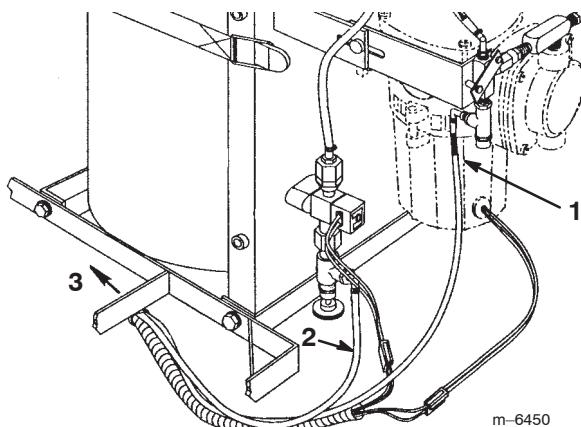

Figure 15
- Mark a 108 inch supply hose with a black marker at each end (Fig. 15).
- Connect the marked supply hose to the hose barb at the compressor and the other supply hose to the hose barb on the needle valve (Fig. 15).